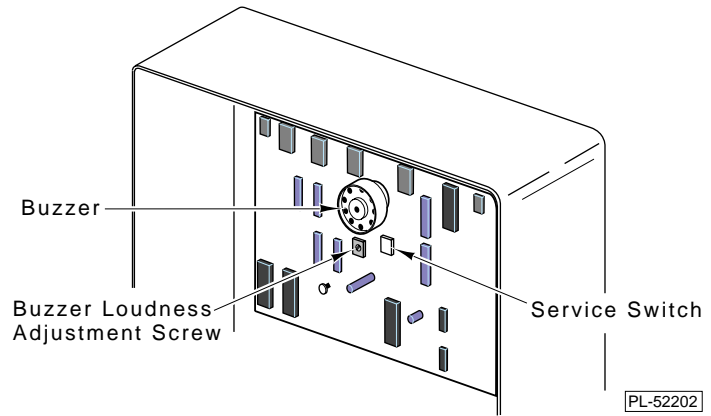

Fig. 5
**SETTING THE TIME AND DATE** — Open the control box door. Press both the Service Switch (see Fig. 5) and the [9] key (on front keypad) at the same time.